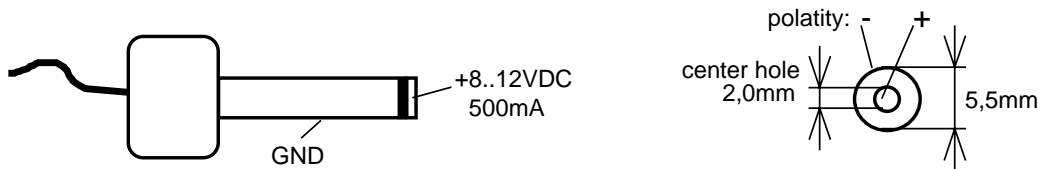

Figure 4: The Power-Plug
- Attach a power supply to the power connector X5. An unregulated 8 V to 12 V = /500 mA power source can be used to supply the board. Use only a fixed voltage power supply and no power supply with variable voltage. Double check the correct polarity of the plug as shown in *Figure 4*. If the power supply is attached correctly the red LED D4 will light up.
- Attach a power supply to the power connector X5. An unregulated 8 V to 12 V=/500 mA power source can be used to supply the board. Use only a fixed voltage power supply and no power supply with variable voltage. Double check the correct polarity of the plug as shown in *Figure 4*. If the power supply is attached correctly the red LED D4 will light up.